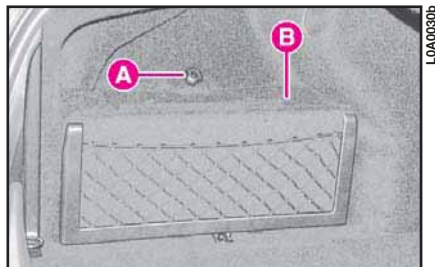

fig. 1
3) Loosen the knob **A** (fig. 1) and remove the protective cover **B**.